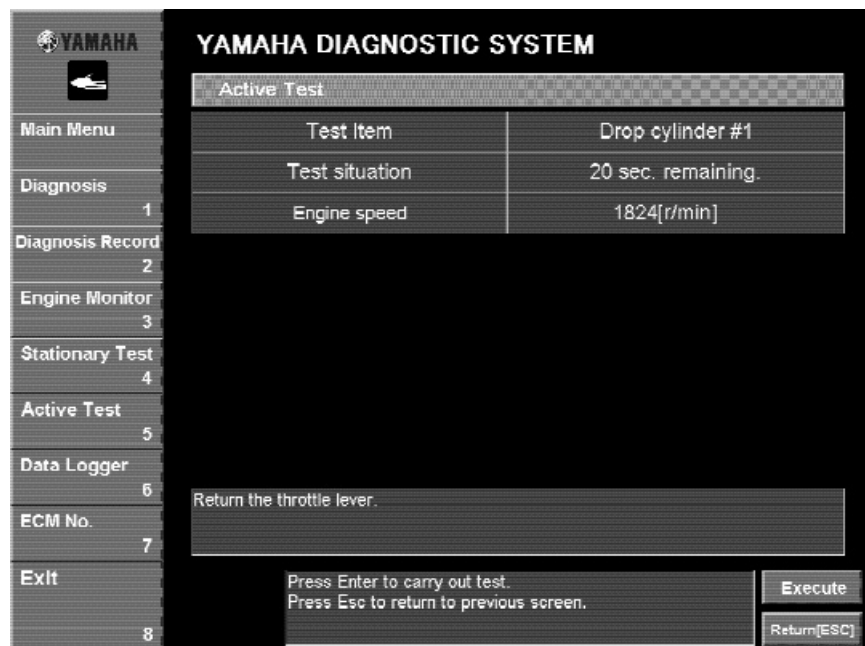

Fig. 56
4. Click the **Execute** button or press the Enter key on your keyboard (Fig. 56).
5. While checking the information that appears beside **Test situation** and **Engine Speed**, follow the test instructions in the messages that are displayed (Fig. 56).